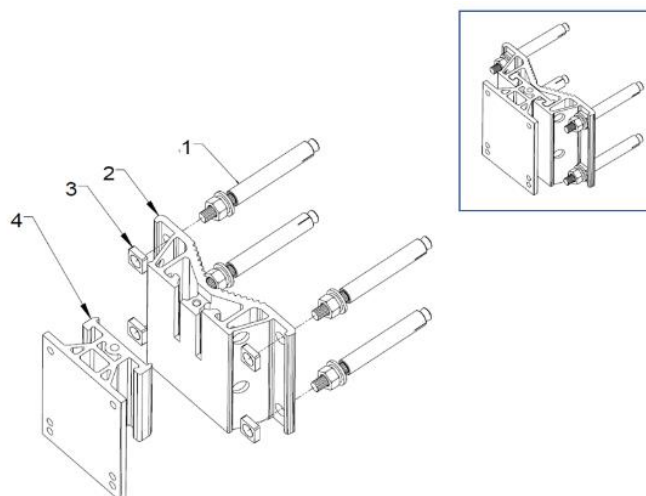

Figure 3-9 Disassembling the ORRU mounting brackets
Step 1: Disassemble the ORRU mounting brackets, as shown in Figure 3-9.